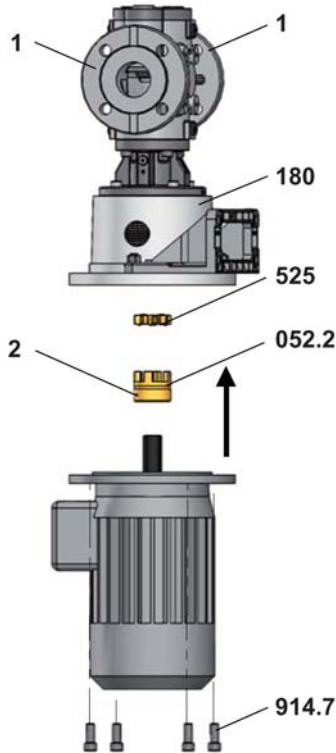

Fig. 2
2. Loosen the connecting screws 914.7 between the motor and pump bracket 180 and lift the pump with pump bracket from the motor, see Fig. 2, page 35.